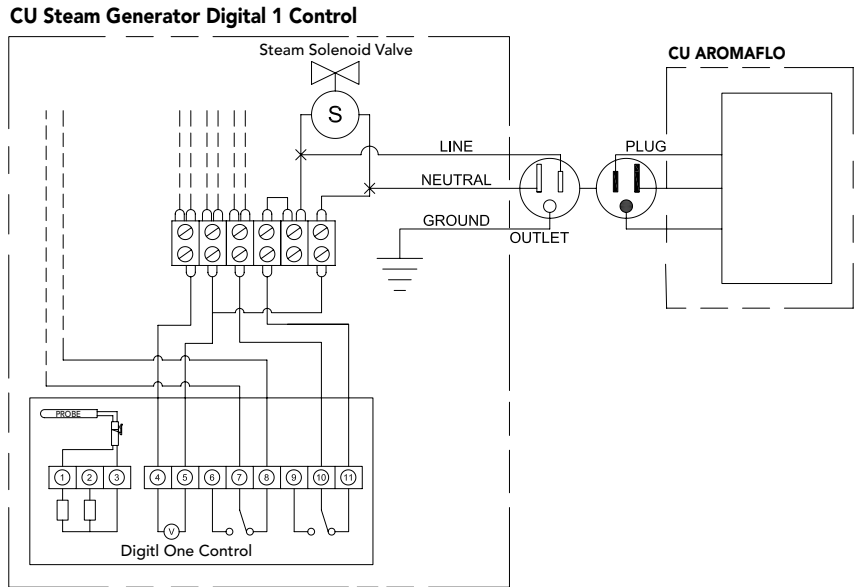

**Figure 1**
2. Insert a short piece of soft injector tube onto the tip of the injector (see Fig. 1).
3. Insert the open end of the injector tube onto the pressure valve (see Fig. 1).